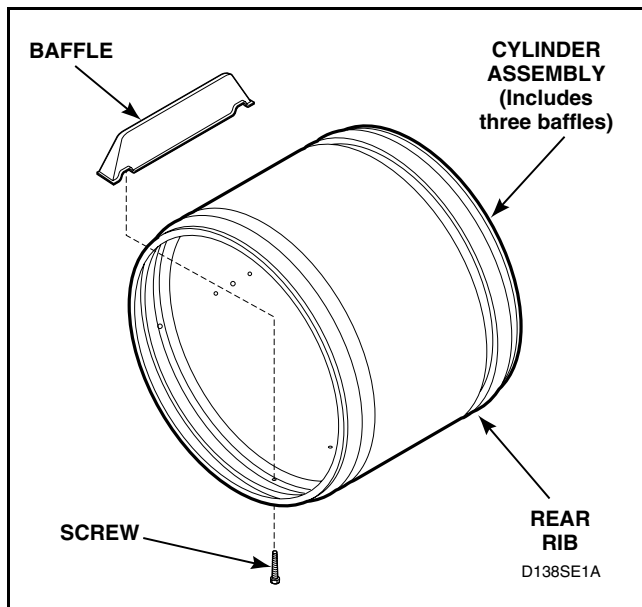

Figure 47
**NOTE:** When installing belt, make sure belt is properly installed on motor and idler pulleys, and is on the correct side of the idler lever. Refer to *Figure 39*. Belt must be positioned around cylinder approximately three inches ahead of the rear rib on cylinder with the ribbed surface of the belt against the cylinder. Refer to *Figure 47*. After installing belt, manually rotate cylinder counterclockwise to check that belt is properly aligned.
**NOTE:** When installing belt, make sure belt is properly installed on motor and idler pulleys, and is on the correct side of the idler lever. Refer to *Figure 39*. Belt must be positioned around cylinder approximately three inches ahead of the rear rib on cylinder with the ribbed surface of the belt against cylinder. Refer to *Figure 47*. After installing belt, manually rotate cylinder counterclockwise to check that belt is properly aligned.
Refer to *Figure 47*.
**NOTE:** When installing belt, make sure belt is properly installed on motor and idler pulleys, and is on the correct side of the idler lever. Refer to *Figure 39*. Belt must be positioned around cylinder approximately three inches ahead of rear rib on cylinder with the ribbed surface of the belt against cylinder. Refer to *Figure 47*. After installing belt, manually rotate cylinder counterclockwise to check that belt is properly aligned.